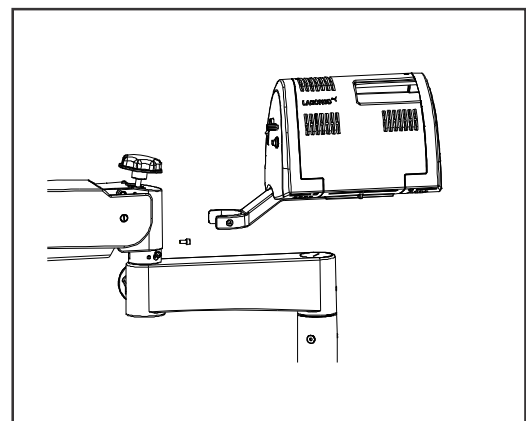

Fig. 4
- 7.3 Retrieve the eVALUX illumination box with small column assembly from the packing box. Fix it in between the swivel and suspension arm assembly as shown in Fig. 4 and secure it by tighten the screws provided.